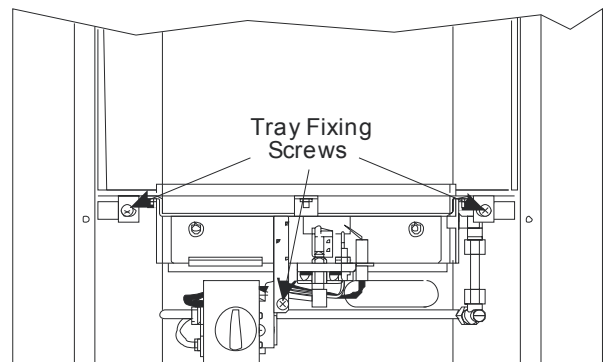

Figure 52 - Tray fixing Screws on Manual Control Model
2. Remove the three tray fixing screws located under the front corners of the tray (see **Figure 52**).